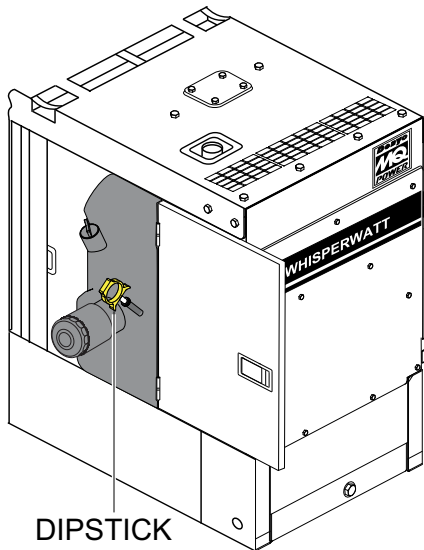

Figure 21. Engine Oil Dipstick
2. Remove the dipstick from its holder (Figure 21) and wipe it clean.